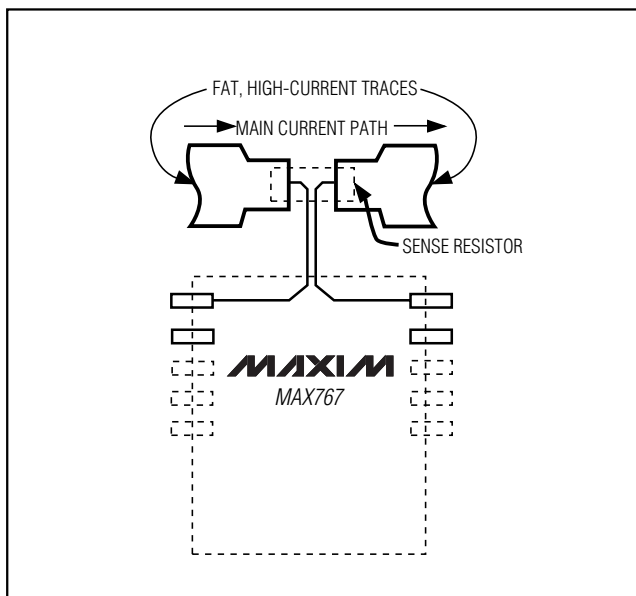

Figure 2. Kelvin Connections for the Current-Sense Resistor
2. Because the sense resistance values are similar to a few centimeters of narrow traces on a printed circuit board, trace resistance can contribute significant errors. To prevent this, Kelvin connect CS and FB to the sense resistor; i.e., use separate traces not carrying any of the inductor or load current, as shown in Figure 2. These signals must be carefully shielded from DH, DL, BST, and the LX node. **Important:** place the sense resistor as close as possible to and no further than 10mm from the MAX767.
Since the sense-resistance values are similar to a few centimeters of narrow traces on a printed circuit board, trace resistance can contribute significant errors. To prevent this, Kelvin connect the CS and FB pins to the sense resistors; i.e., use separate traces not carrying any of the inductor or load current, as shown in Figure 2.